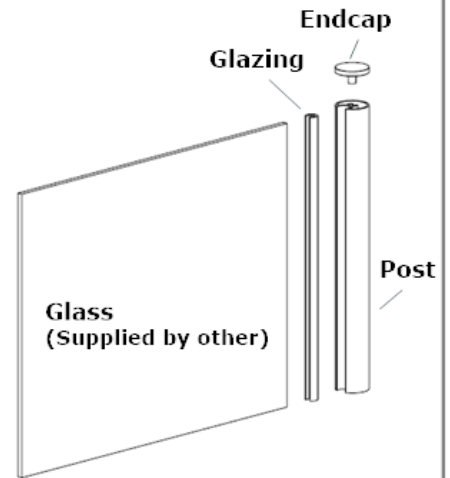

Figure 2
3. Place two fittings together and insert into bottom end of the post. Insert fasteners from bottom of mounting surface and tighten. Threadlock may be used to prevent loosening. **(See Figure 2)**
2. Install fastener through the mounting plate and into the post. Threadlock may be applied to the fastener to prevent loosening. **(See Figure 2)**